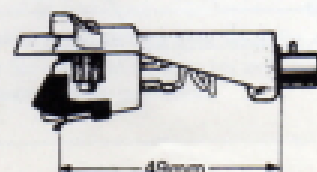

Fig. 4
4. Adjust the position of the cartridge so that the stylus and the connector section of the headshell are 49mm apart and tighten up the screws. Make sure that the cartridge does not tilt to one side when you attach it (see Fig. 4).